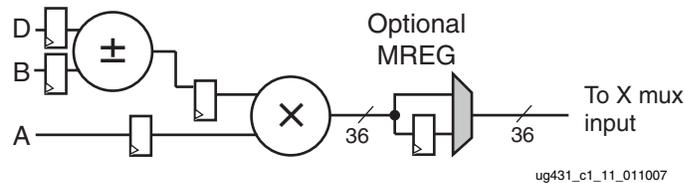

Figure 1-12: Two's Complement Multiplier Followed by Optional M REG
- The CREG, DREG, MREG, and PREG attributes can take a value of 0 or 1. The value defines the number of pipeline registers at the output of the multiplier (MREG) (shown in Figure 1-12) and at the output of the post-adder/subtractor (PREG) (shown
Figure 1-12 shows an optional pipeline register (M REG) for the output of the multiplier. Using the register provides increased performance with a single clock cycle of increased latency. The gray multiplexer indicates “selected at configuration time by configuration bits.”